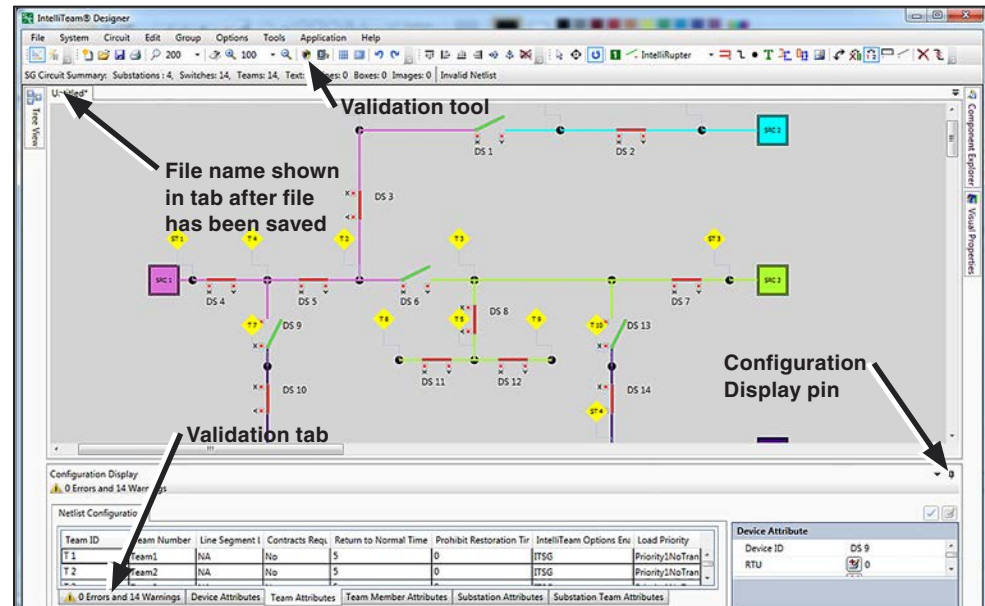

Figure 58. The Validate tool automatically assigns team ID designation to each team.
- STEP 2.** After validation, the line sections will be the same color as the source powering them. Click on the Configuration Display pin to open the **Configuration** screen, which contains the **Validation** tab. See Figures 58 and 59.